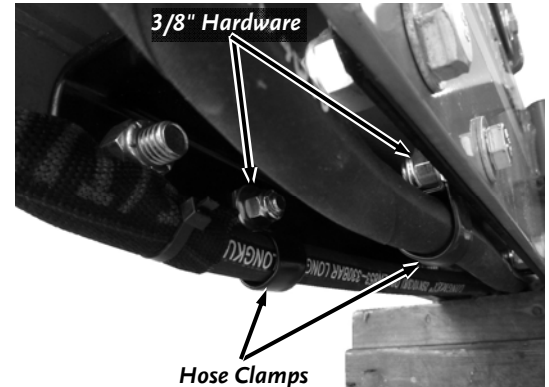

Figure 9
11. Place a Hose Clamp over each Hose and attach the Clamp to the Beam with 3/8" Bolts, Washers (one on bolt side and one on nut side) and Locknuts using two 9/16" Wrenches (**Figure 9**).